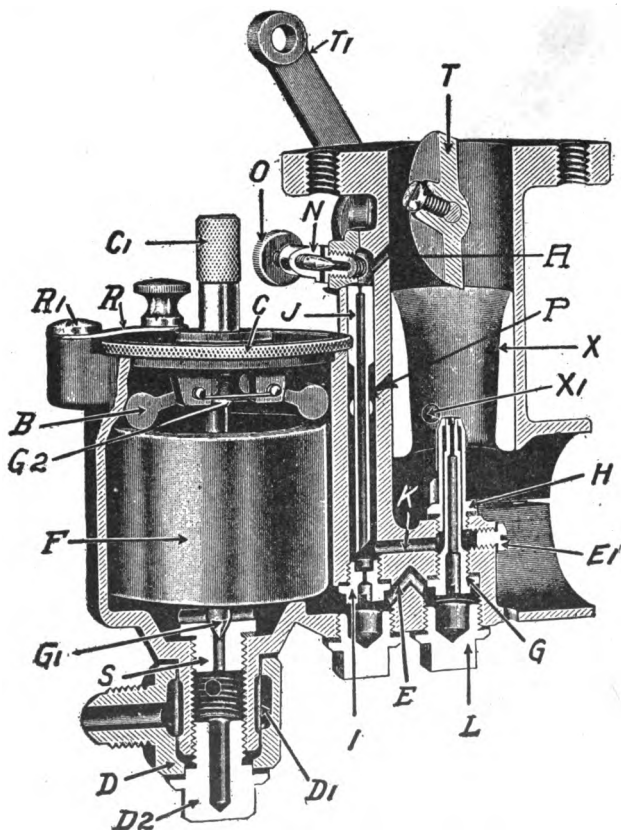

Fig. 83. Zenith Carburetor, Model "O"
buretor, a diagrammatic sketch being shown in Fig. 83. This is but a modification, in a way, of the Venturi plan, for the latter shape is actually used for the vaporizing chamber. The new idea consists in leading into this mixing chamber, two tubes. Of these, one is the ordinary spray nozzle and does not differ from that used on hundreds
**Zenith Carburetors.** The Zenith Model "O" carburetor, shown in Fig. 83, enjoys wide use in this country because of its simplicity. It has fewer ordinary adjustments than any other carburetor. This is so constructed that but one adjustment, that for slow speed, is provided. However, its makers realize that sometimes changes and adjustments are necessary to secure proper results. They provide for these by the removal of three internal parts and their replacement with simpler parts, but with different working orifices, or holes.
*Zenith Adjustments.* The three parts mentioned are: choke tube, main jet, and compensator. In Fig. 83, the choke tube is marked *X*. This is really an air nozzle of such a stream-line shape (approximating the Venturi) as to allow the maximum flow of air without eddies and with the least resistance. When the pick-up, or acceleration, is defective and slow-speed running is not smooth, the choke tube is too large. In this case, it will be found that a larger compensator *I* does not better the situation. Then a smaller choke tube is needed. This is held in place by a screw *X*1 in the choke itself with a lock washer to prevent its jarring loose. To remove the choke, the butterfly *T* must first be removed. In the horizontal types, the body is in two pieces, which are held together by an assembling nut. When this is removed and the two pieces taken apart (the bowl from the barrel), the choke can easily be slipped out of the barrel. When the motor will not take a full charge, that is, when it cannot, with the throttle fully opened, this indicates the need for a larger choke tube. It will be noted that although the pick-up is good, the car will not make all the speed of which it is capable. In this case, take out the choke tube *X*, as explained above, and replace with a larger one.
*Changing the Main Jet.* The main jet *G*, Fig. 83, shows its influence mostly at high speeds. When running at high speed on a level road, if the indications show a rich mixture, irregular running, characteristic smell of over-rich mixture from the exhaust, firing in the muffler, sooting up of the spark plugs, and low mileage, the main jet is too large and should be replaced by a smaller one. On the other hand, when running at high speed, if the indications are that the mixture is too lean, if the car will not attain its maximum speed, if there is occasional back firing at high speed, then the main jet is too small and should be replaced by a larger one. In respect to back firing, however, care should be used, as this is more often due to large air leaks in the intake or valves or to defects in the gasoline line.
*To Replace Main Jet.* When it is necessary to change the main jet *G*, Fig. 83, to a larger or smaller size, the lower plug *L* is removed first. This has a square head and is removed with a wrench. Then the main jet is unscrewed from below by means of a screwdriver, a notch being cut into its lower part for this purpose. In reassembling care should be taken to see that the fiber joint packing is on the jet and that the jet is screwed up far enough to compress this. Otherwise gasoline may leak around the threads. But one fiber washer should be used. Then the lower plug *L* is replaced, and this also must be screwed up tight.
*Changing the Compensator.* The third change which can be made is in the compensator *I*, Fig. 83. The opening in this supplies the fuel to the secondary well and, if too large or too small, will have a corresponding influence upon the running of the car. The makers call attention to the fact that its influence is most marked at low speeds and suggest that when this is suspected, the car should be tried out on a hill, regular but long, and of such a slope that the motor will labor rather hard to make it on high gear. Under such a test, if the indications are of too rich a mixture, that is, the same as for a rich mixture at high speed on the level, as previously explained, the compensator is too large, and must be replaced with a smaller one. If the indications are of a lean mixture, with the motor liable to miss and give a jerky action, the compensator is too small and must be replaced with a larger one. This is easily removed in the same manner as the main jet *G*, by removing the bottom plug beneath it and then removing *I* with a screwdriver, through the medium of slots for this purpose in its
*Slow-Speed Adjustment.* The one adjustment in the Zenith device which is really an adjustment and not a change is that for slow speed. This is preferably made on the garage floor, with the motor properly warmed up. When this has been done and it has been throttled down to idling speed, any irregularity, such as the lack of ability to throttle down to a really slow speed (say 350 or less r.p.m.), calls for a change in the adjustment. When the throttle *T*, Fig. 83, is nearly closed, there is considerable suction at the edge, and the tube *J* in the top of the secondary well *P* terminates in a hole *A* near the edge of the butterfly at which gasoline is picked up. If the motor will not throttle down as slowly as it should, the supply of gasoline can be reduced by means of the external milled screw *O*. When this is turned in, the air entrance *N* is restricted, and consequently a richer mixture is drawn in. When it is unscrewed, or turned out, a larger air opening is uncovered, and consequently a leaner mixture is drawn in.